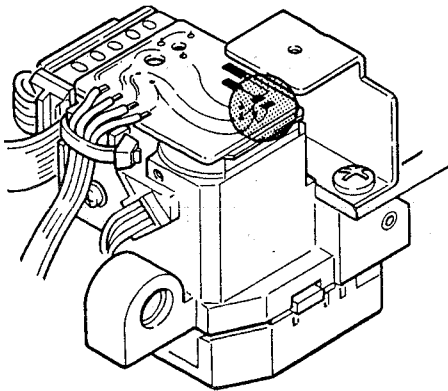

Figure 19
1. When removing laser pickup, solder and short-circuit its terminals to protect laser pickup from damage which may be caused during the removal. (Refer to Figures 19 and 20)
1. When mounting a new laser pickup, first connect the connector and leads and then unsolder the solder used to protect laser diode on P.C. Board. (Refer to Figures 19 and 20)